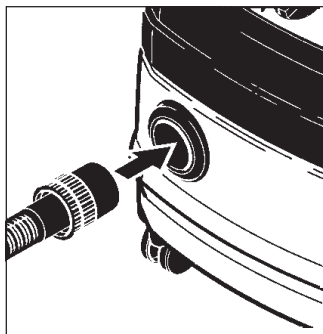

Figure 4
This machine must be connected to the electrical ground to protect the operator from electric shock. The machine has a power cord with two main conductors and one earthing conductor. Connect the plug to the type of receptacle shown in figure 4. The green and yellow conductor in the cord is the ground wire. Never connect this wire to any terminal other than the ground terminal.
4. Connect the suction hose. The "Wap Multifit" enables any Clarke suction hoses (27, 32, 36, 50 mm diameter) to be connected to the machine (Figure 4).
4. Connectez le tuyau d'aspiration. Le «Wap Multifit» permet à n'importe quel tuyau Clarke (de 27, 32, 36 et 50 mm de diamètre) d'être connecté à la machine (Figure 4).